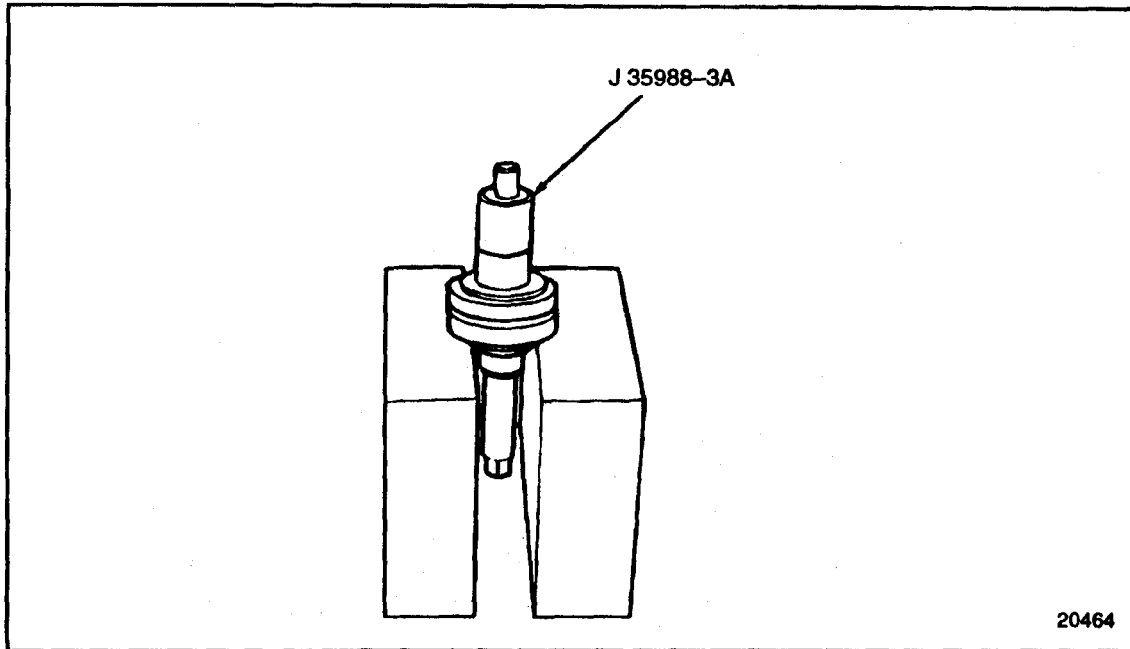

Figure 4-14 **Removing Bearing Assemblies**
10. Insert J 35988-3A , part of tool set J 35988-B, in end of drive shaft. See Figure 4-14.